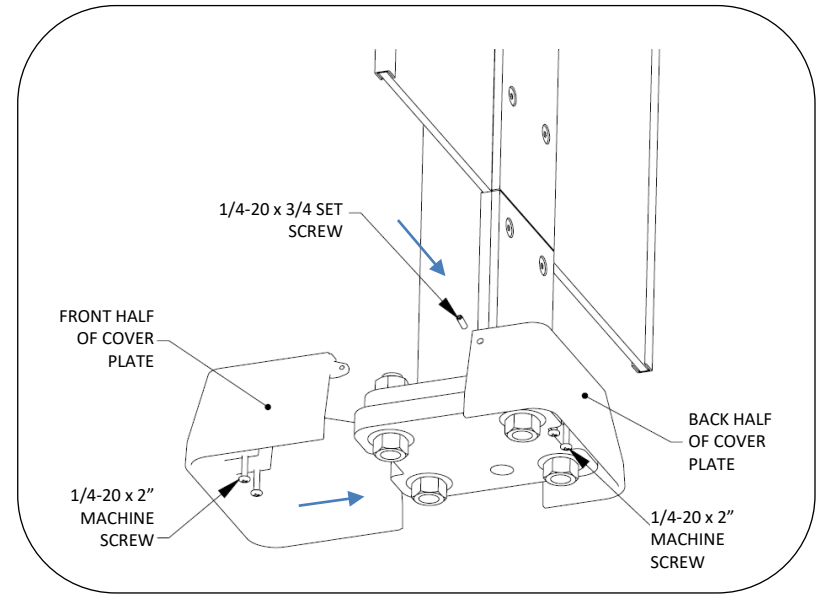

FIG. 15 – INSTALL COVER PLATE
22. Install post cover plate, see Fig. 15.